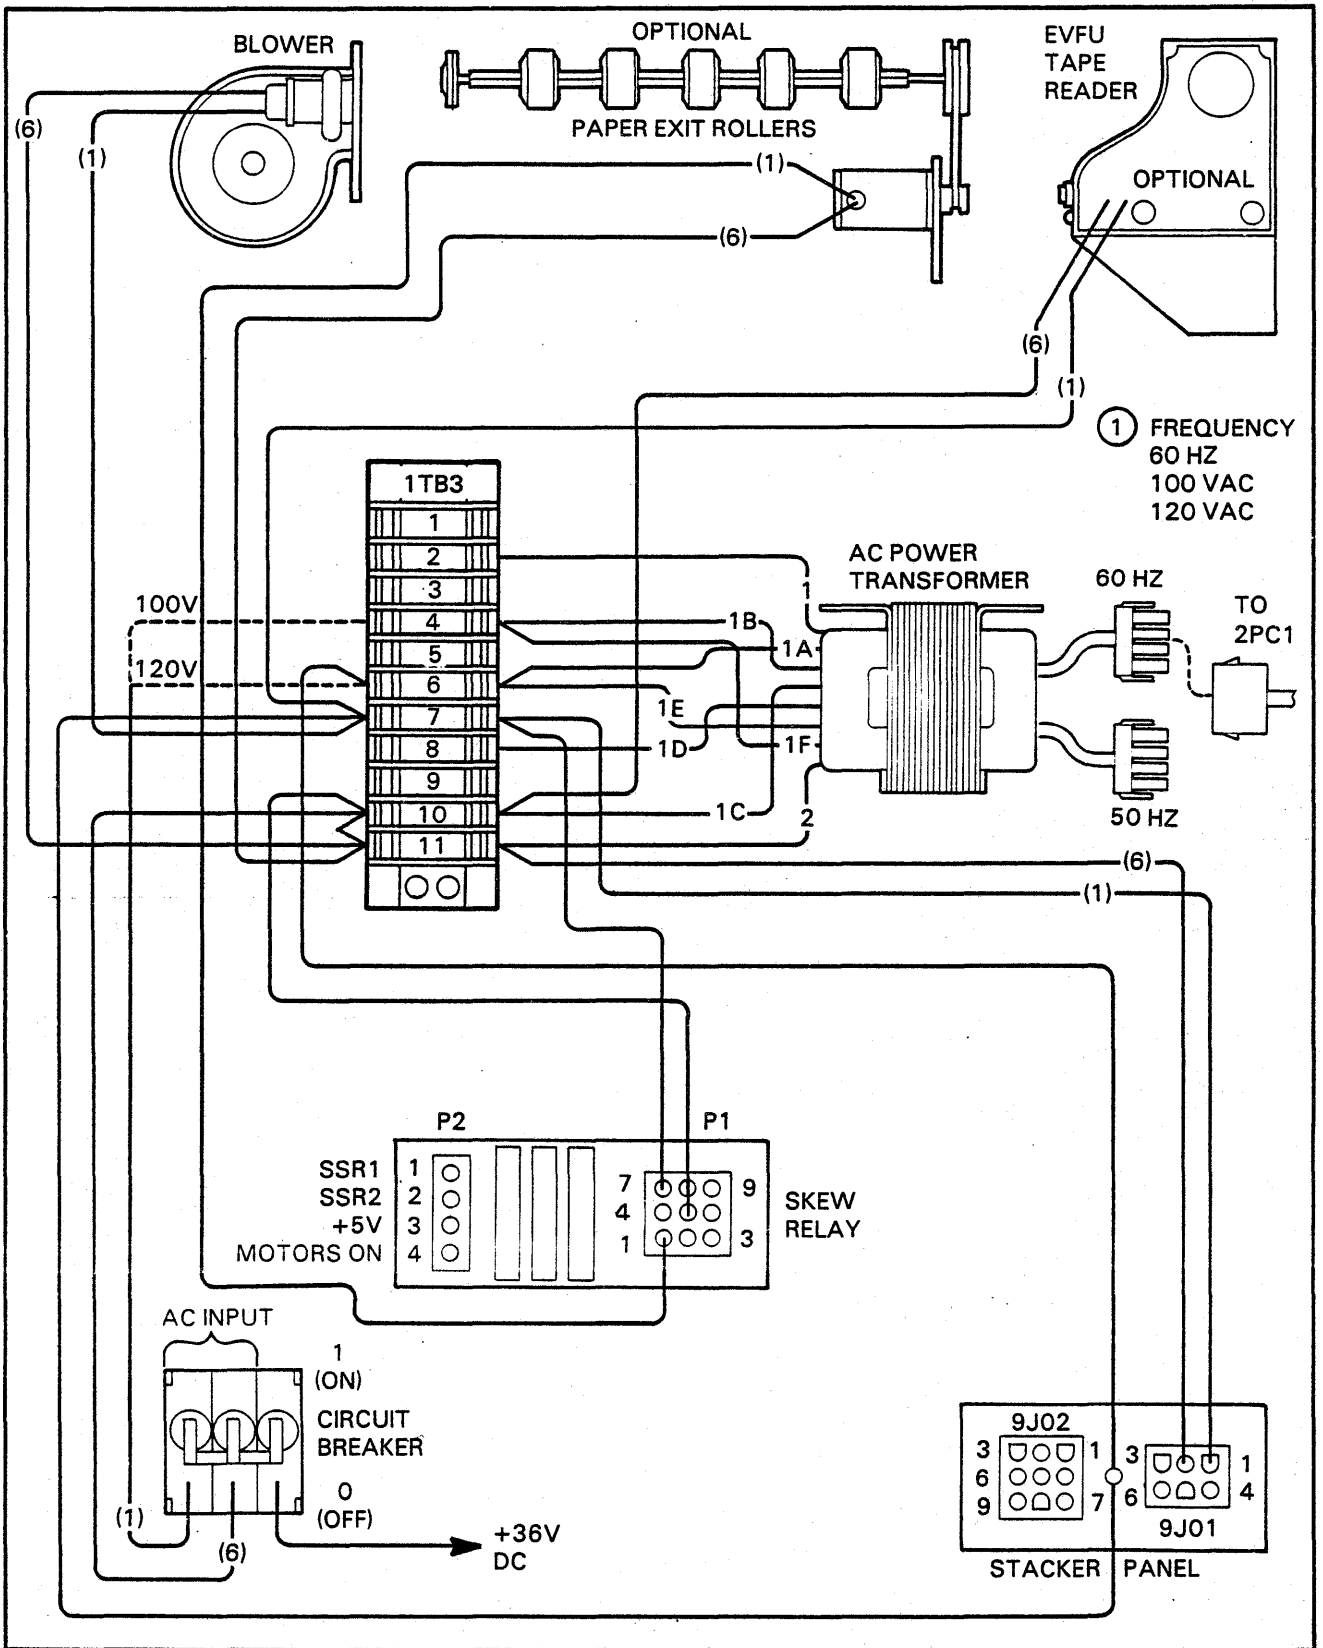

FIGURE 5-9. FREQUENCY 60 HZ - 100 OR 120 VAC
2. Determine what the printer should be wired for from the tag on the back of the printer. Always verify the printer is still wired to match the tag by comparing the wiring to Figures 5-9 and 5-10. If the wiring appears to be different, determine by comparison to which configuration it is wired.
100 or 120 vac - Figure 5-9